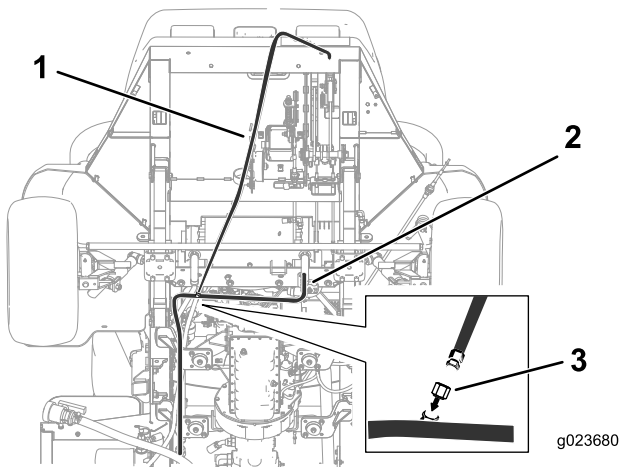

Figure 2
3. Remove the hydraulic hose from the tube assembly and place the hydraulic fitting cap on the open valve (Figure 2).